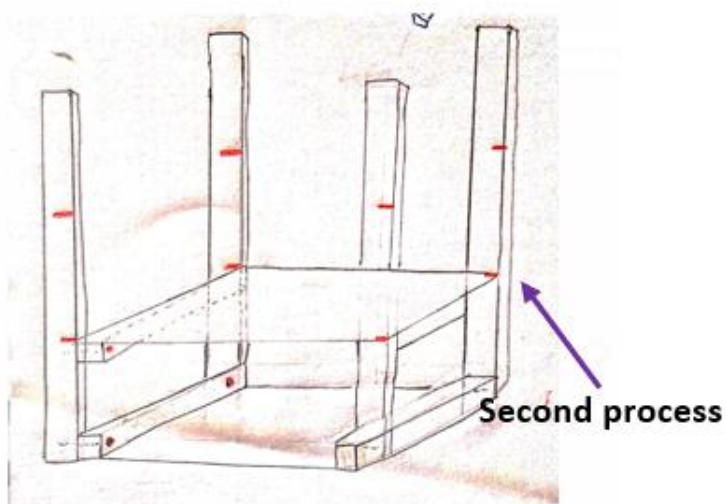

Figure 10: Attachment plan of the central triplex to the general base
5.- In this way, the two remaining triplexes will be nailed, as shown in (Figure 10).